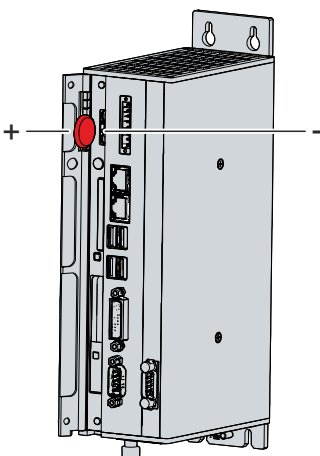

Fig. 24: C6920_Battery change
2. Insert the new battery into the PC by hand. Pay attention to the correct polarity. The negative pole of the battery must face the voltage socket of the industrial PC (see fig. 24).